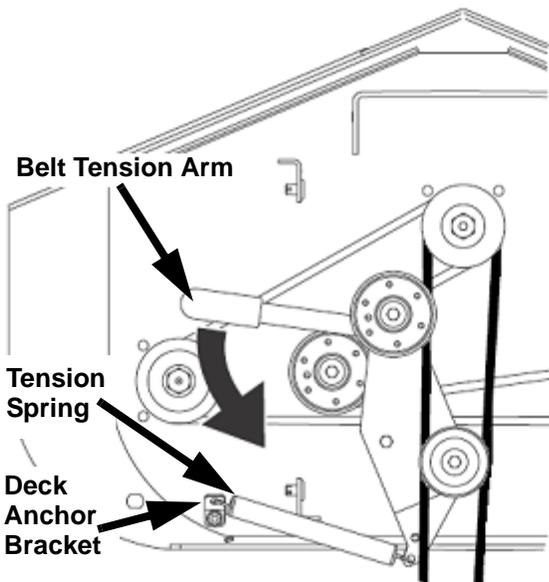

FIGURE 2
4. Release the P.T.O. belt tension by moving the belt tensioning arm towards the rear (60" Deck Shown). See Figure 2.
6. Disconnect the idler arm tension spring from the deck anchor bracket. See Figure 2.